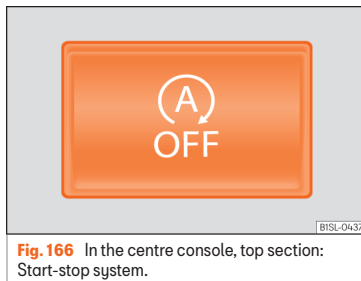

Fig. 166 In the centre console, top section: Start-stop system.
- Press the button  situated in the centre console **»» Fig. 166.**